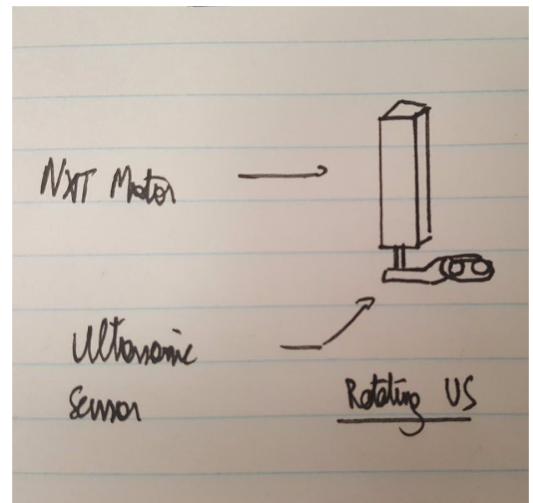

Figure 3 : Diagram of the rotating ultrasonic sensor
- An additional motor could be used for the rotating US sensor. In this way, the robot will detect the obstacles from all directions which is considered as “forward”. See **Figure 3**.